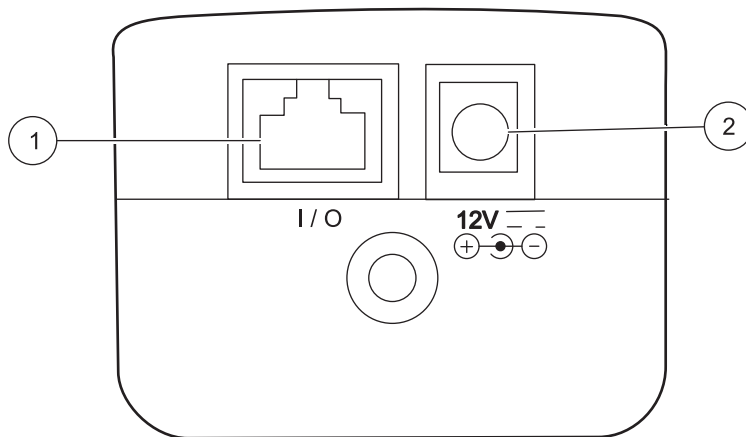

Figure 5 Location of power port
3. Plug the external power supply jack into the MET ONE HHPc-2 power port (refer to Figure 5, item 1).